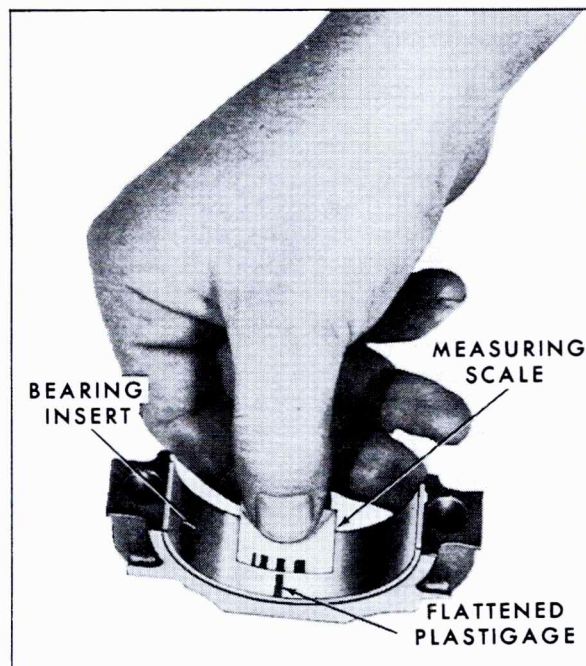

Fig. 6-132 Checking Bearing Clearance
4. Remove bearing cap and determine clearance by comparing width of flattened "Plastigauge", at its widest point, with graduations on "Plastigauge" container. Number within matching graduation on envelope indicates clearance in thousandths of an inch, Fig. 6-132.